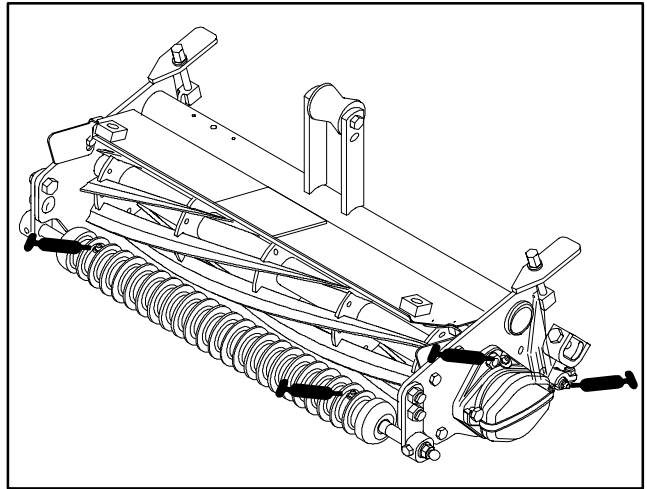

Figure 5
1. The grease fitting locations and quantities are: Reel bearings (2) and front and rear rollers (2 ea.) (Fig. 5)